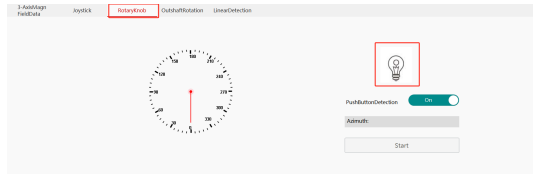

Figure 13: Rotary Knob GUI Illustration
- Install the structural components as shown in the schematic diagram of the knob in Figure 13.